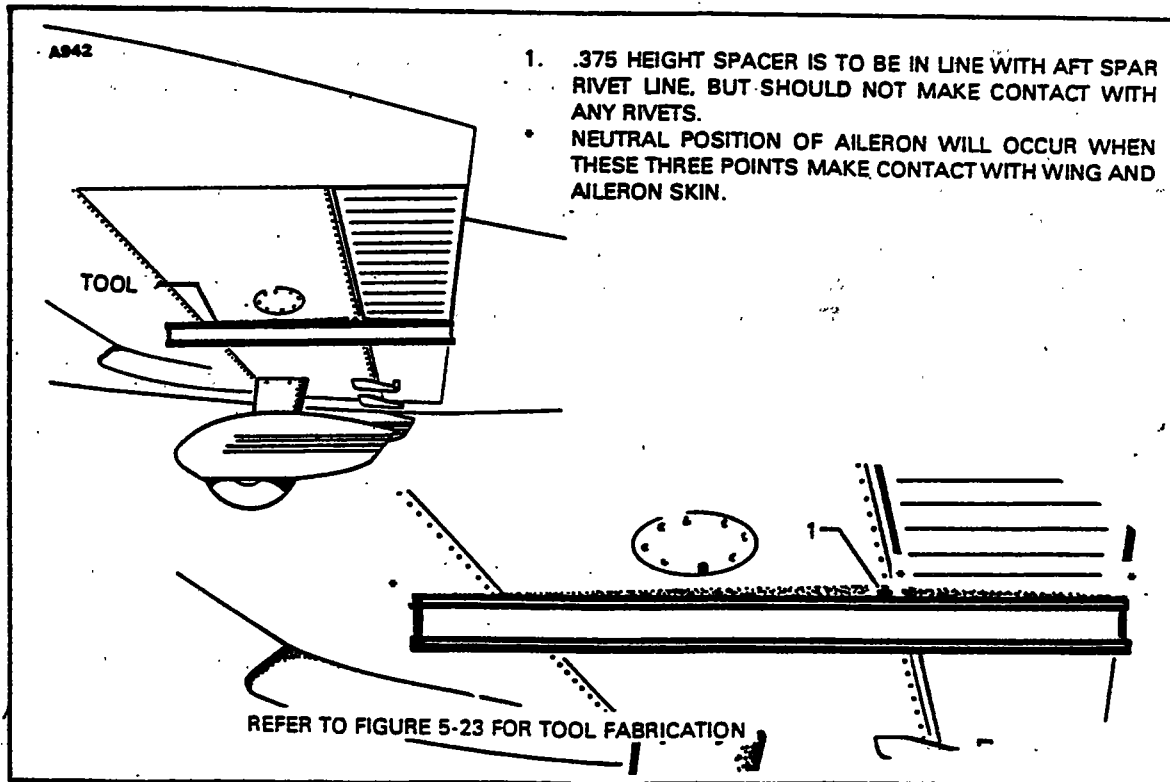

Figure 5-6. Aileron Rigging Tool
2. Place an aileron rigging tool as shown in Figure 5-6 against the underside of the wing and aileron as close as possible to the inboard end of the aileron without contacting any rivets. The tool must be positioned paralleled with the wing ribs, with the aft end of the tool, even with the trailing edge of the aileron. (This tool may be fabricated to dimensions given in Figure 5-23.)